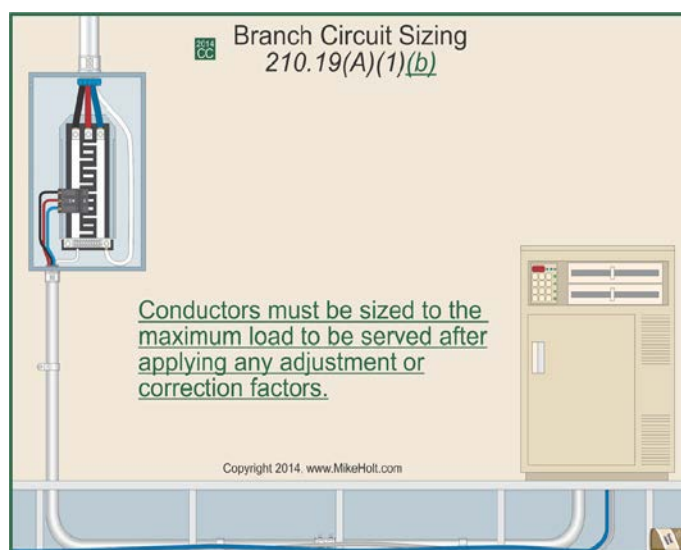

Figure 6-51
- (b) Conductors must be sized to carry the load after the application of correction or adjustment factors. **Figure 6-51**